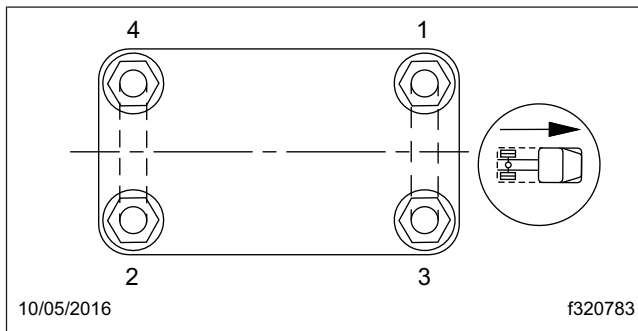

Fig. 9, Tightening Pattern for U-Bolt High Nuts
* Tighten in a diagonal pattern as shown in **Fig. 9**.